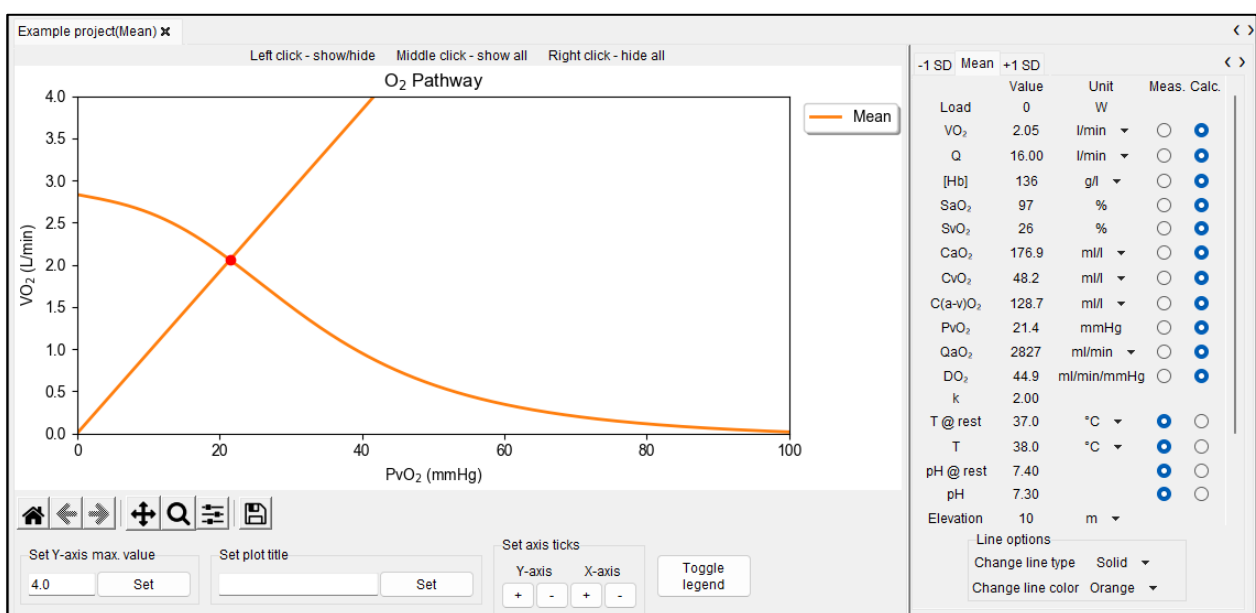

Figure 47
6. The statistics figure is shown in the plot panel and three load tabs have been created with the corresponding numerical values (Figure 47).